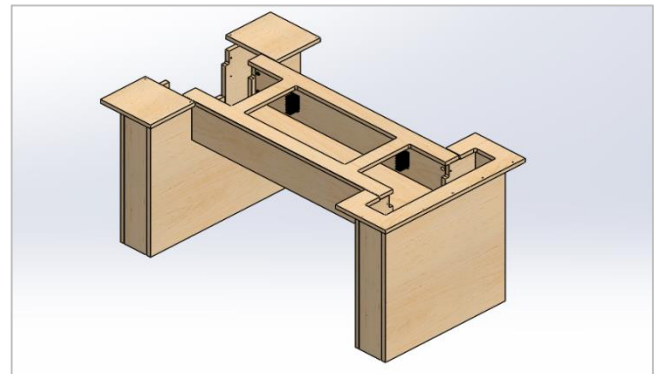

Figure 6
3. Working from one end, attach trough to bases – slide pins into holes, then rotate cam lock approximately  $\frac{1}{4}$  turn to tighten. (Figure 6) DO NOT OVER TIGHTEN.